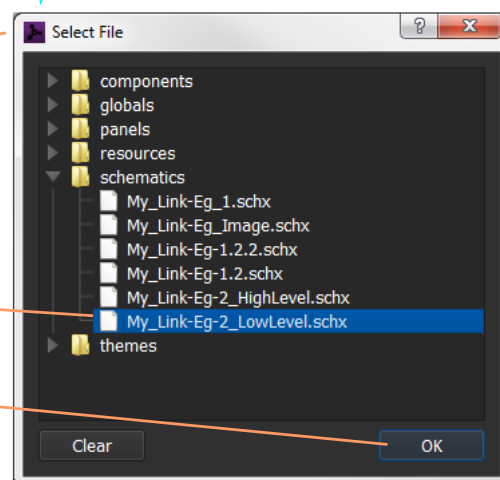
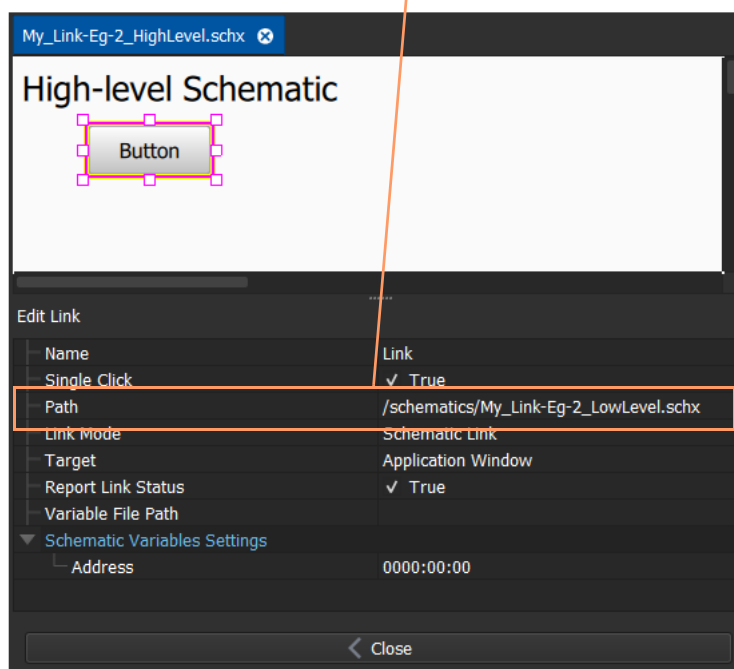

Fig. 8-9: Setting Path Property
Fig. 8-10: Link Behaviour Properties
- 6 Edit the **Link** Behaviour properties and set the **Path** property value to be the path to the low-level screen. See Figure 8-9. And Figure 8-10 shows the final **Link** Behaviour properties.